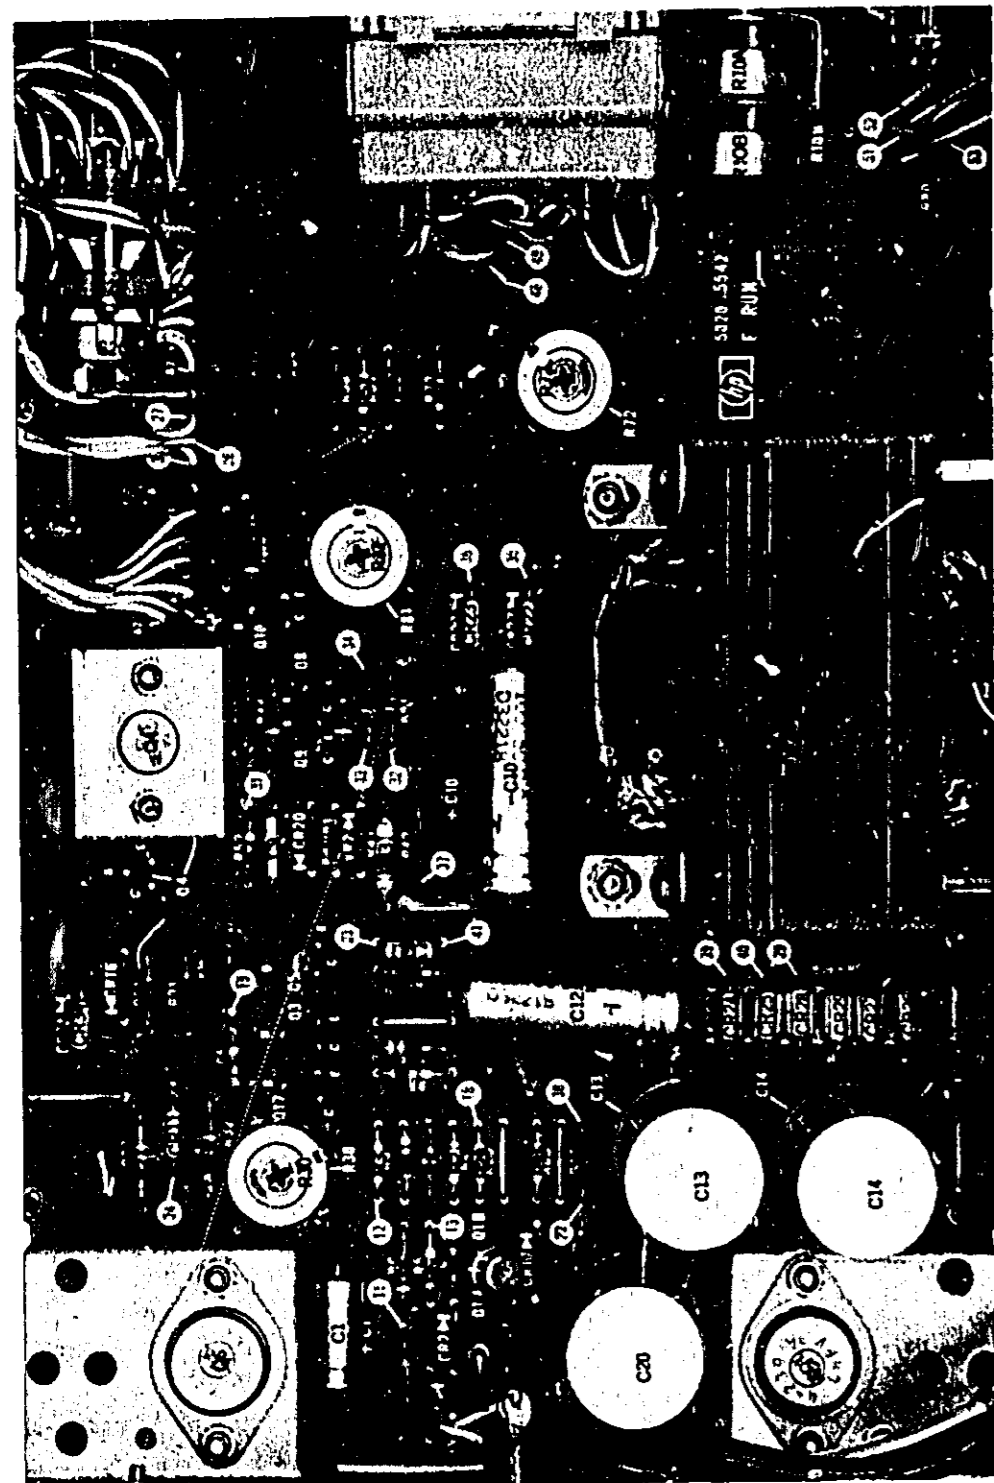

Figure 7-1. Component Location Diagram
a. Component Location Diagram, Figure 7-1, which shows the physical location and reference designator of parts mounted on the printed